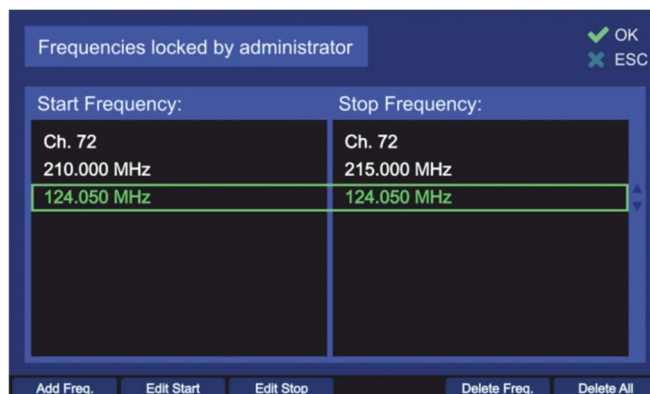

Figure 125. Locked frequencies list. Administrator view
- By pressing the “OK button or hotkey “Edit Value”, while the setting “Lock/Unlock Frequencies” is marked by the green frame, the following dialog is opened (s. Figure 125). This view will contain only one hotkey “Add Freq.” if entered for the first time, when no frequency is locked yet.